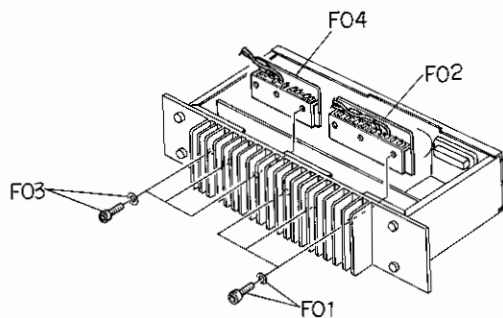

Fig. 3.2
Remove top cover ass'y (item 3.1). Refer to Fig. 3.2 and remove F01 and F03, then F02 and F04 (power block ass'y).